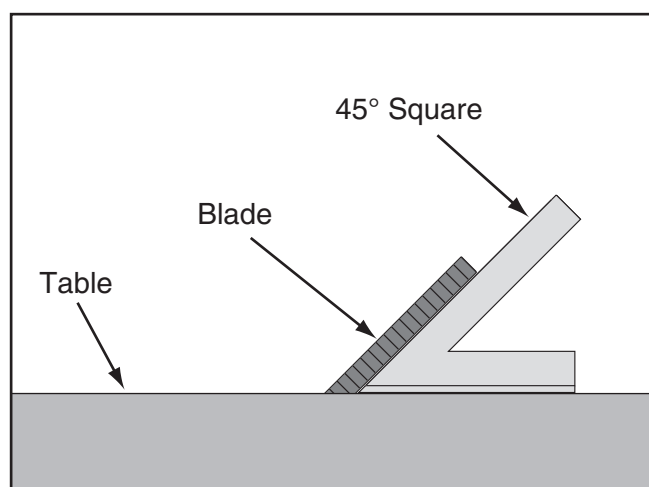

Figure 101. Checking blade at 45°.
- Place a 45° square against the table and blade so it contacts the blade evenly from bottom to top, as shown in **Figure 101**. Make sure a blade tooth does not obstruct the placement of the square.
- Place a 45° square against the blade, as shown in **Figure 101**, then adjust the blade until it is exactly 45° to the table.